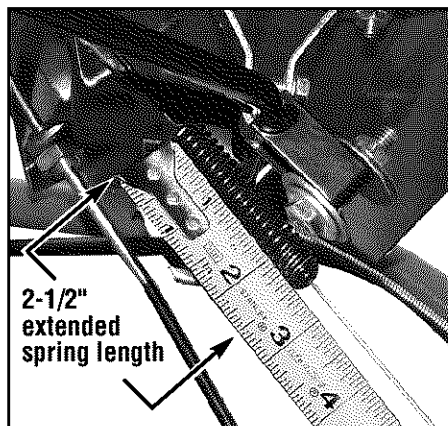

Figure 5-11: Correct spring length when Forward Clutch Levers are engaged is 2-1/2".
extended coil is 2-1/2" (see Figure 5-11). The forward clutch control cable needs adjustment if the extended length of the coil is not 2-1/2". See *Adjusting the Forward Clutch Belt* for a procedure.
4. Hand tighten the jam nuts and pull the Forward Clutch Control levers up against the handlebar. Measure the coiled part of the spring (Figure 5-11). The length of the extended coil should be 2-1/2". Repeat this procedure until the extended spring length is correct.